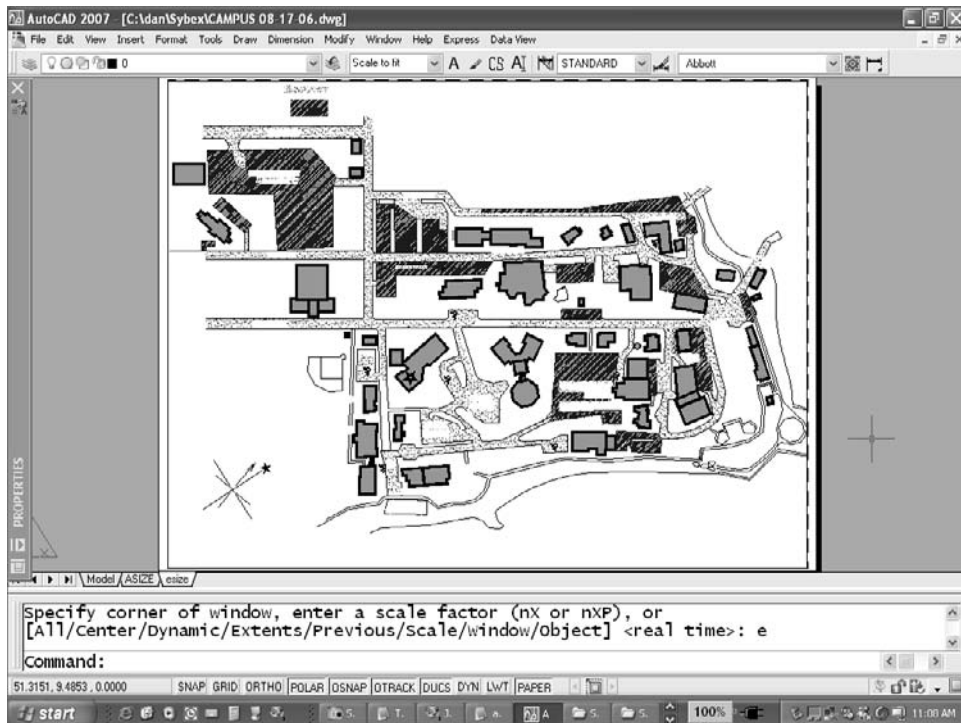

Figure 6.31
7. Type x↵ to exit DVIEW, and scale the floating viewport. The results are shown in Figure 6.31.